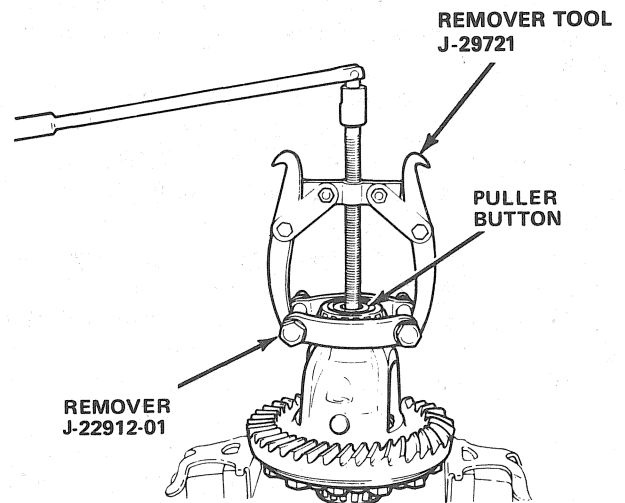

Fig. 2F-51 Differential Bearing Removal—Model 60 Axle
(2) Position chamfered edges of remover tool between bearing inner race and case.
(3) Tighten remover tool bolts until chamfered edges of tool are well under bearing race.
(4) Install puller button in case bore.
(5) Install Puller J-22888 on Remover Tool J-22912-01 and center puller forcing screw in puller button (fig. 2F-51).